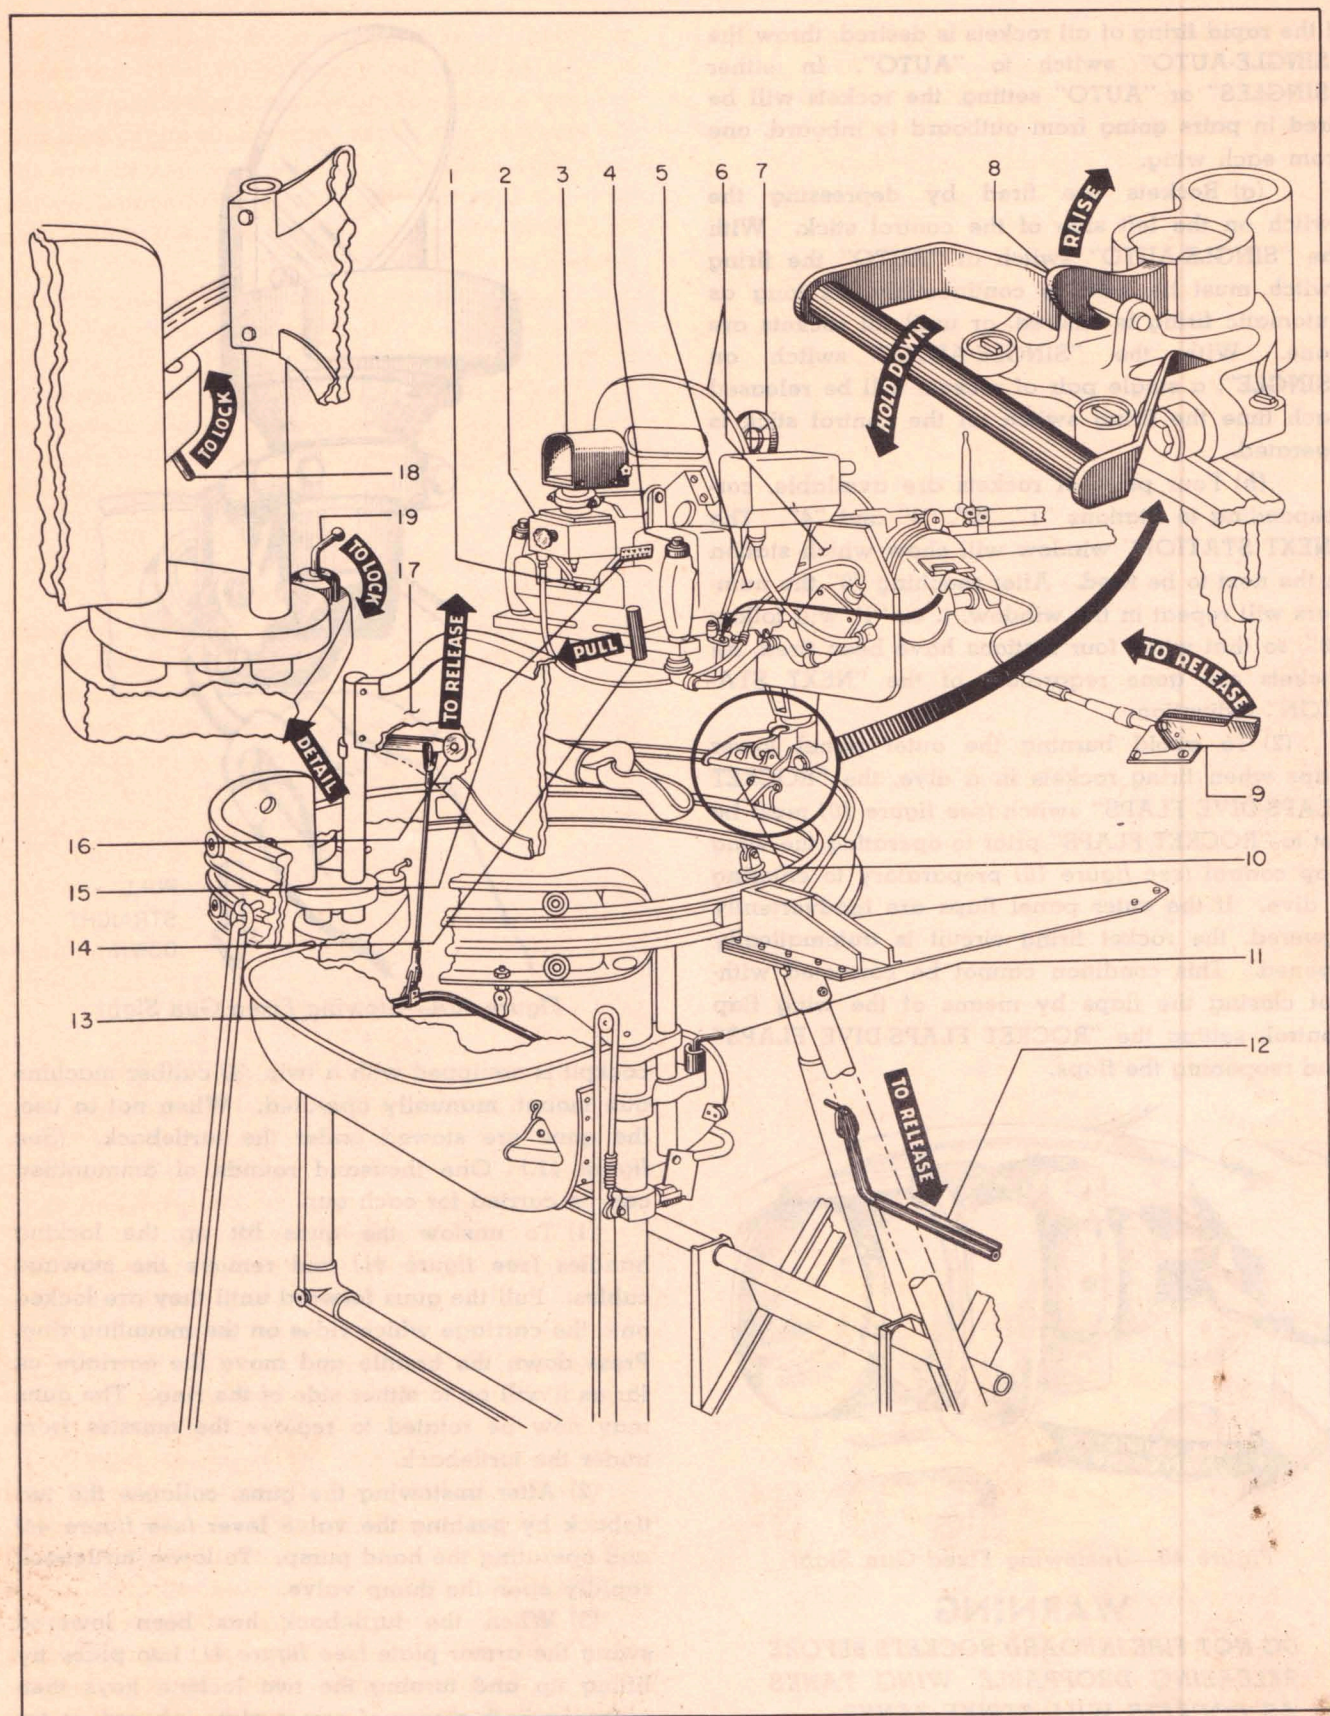

Figure 41—Flexible Gun Installation
cockpit is equipped with a twin .30 caliber machine gun mount, manually operated. When not in use, the guns are stowed under the turtleback. (See figure 41.) One thousand rounds of ammunition can be carried for each gun.
(1) To unstow the guns lift up the locking handles (see figure 41) and remove the stowage cables. Pull the guns forward until they are locked onto the carriage which rides on the mounting ring. Press down the handle and move the carriage as far as it will go to either side of the ring. The guns may now be rotated to remove the muzzles from under the turtleback.
(3) When the turtleback has been lowered swing the armor plate (see figure 41) into place by lifting up and turning the two locking keys then swinging both pieces of armor plate inboard as far as they will go. To hold the armor plate closed fasten both pieces together by the elastic cord.
(4) Charge the guns by pulling and releasing the two "T" handles (see figure 41) each of which charges one gun. To fire, place the "SAFE-FIRE" button (see figure 41) on "FIRE" and press the trigger (see figure 41) with either thumb. Selective firing is accomplished by charging only the gun it is desired to fire.
(5) The guns are manually operated and can be rotated through an arc of 35° on each side of aft center. Vertical movement is obtained by raising or lowering the guns manually. Additional vertical movement is obtained by tilting the gun track, which movement is controlled by a foot latch (see figure 41) on the aft supporting strut.
(6) The gunner's seat is raised or lowered by either of two methods. If the breast armor plate is in place, the seat lock is released by raising a lever on the left seat support (see figure 41) just inside the
gun ring. If breast armor is not used, the seat lock is released by lifting a bar (see figure 41) just below the forward edge of the seat and extending between the seat supports. The seat revolves on the seat ring and can be locked so that the gunner can face the fore and aft positions. The lock is located on the under left side of the seat at the seat track. (See figure 41.)
(7) The guns are stowed by depressing a thumb latch (see figure 41) on the carriage and pushing the guns aft until muzzles are in place in the stowage bracket (see figure 41) located on the turtleback. To secure the guns in this position, place the hooks on the ends of the stowage cables in the clips provided (see figure 41), just forward of the gun handles.
(8) GUN SIGHT.—In order that the gun sight light may be operated, the switch (see figure 41) on the aft switch panel must be "ON". After this switch is "ON" operate the multiple-type switch (see figure 41) on the gun mount directly below the sight.
(9) GUN CAMERA.—When the gun camera switch (see figure 41) is depressed, operating the trigger of the guns closes the camera circuit. The camera then operates with the guns.
- Parts list for figure 41